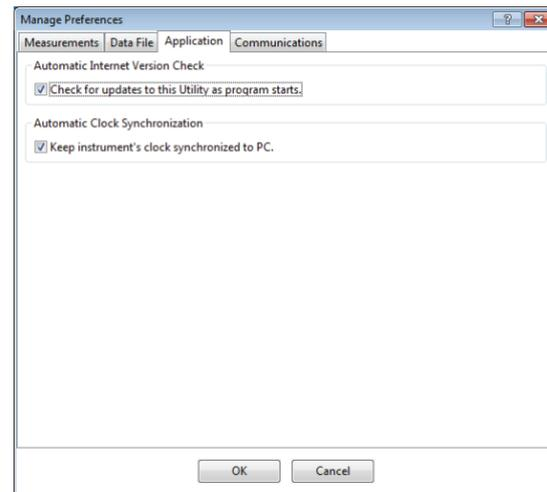

Figure 28 Application tab
• Application Tab (Figure 28):